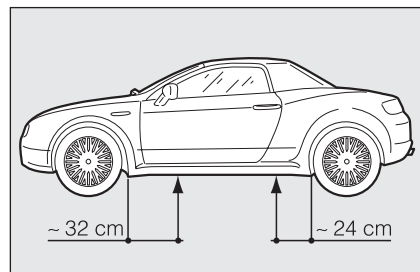

fig. 6
- ☐ The jack shall be fitted as shown in **fig. 6**;